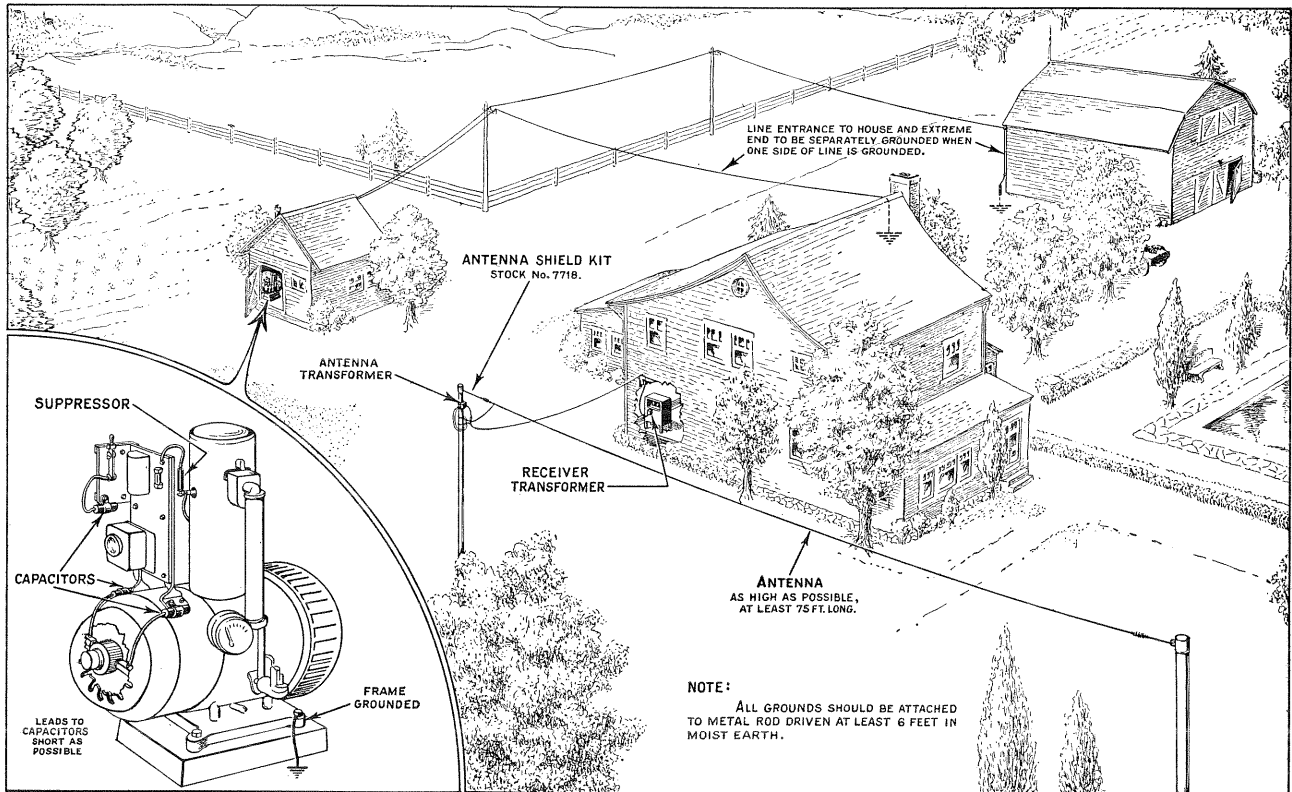

Figure 4—Typical Installation showing suppression equipment and proper antenna system
I. F. TUNING ADJUSTMENTS—Two transformers comprising three tuned circuits (the secondary of the second transformer is untuned) are used in the intermediate amplifier. These are tuned to 175 K. C. and the adjustment screws are accessible as shown in Figure 4. Proceed as follows:
Figure 4 shows a typical installation of the suppression equipment. This equipment is connected as follows: